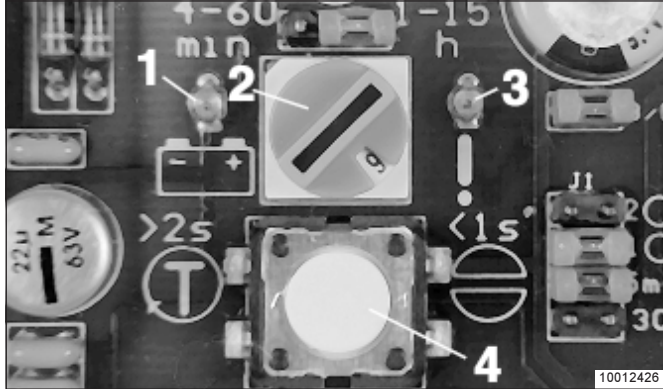

Fig. 20 - LED of the printed circuit board
*Note: It is also possible to acknowledge any fault or to trigger an additional lubrication cycle via pushbutton 4 of the printed circuit board (Fig. 20).*
*Note: It is also possible to acknowledge/reset a fault or trigger an additional lubrication cycle by means of the pushbutton on the printed circuit board (Fig. 20). For this, press it < 1 second and > 2 seconds. **Condition: The machine contact or driving switch must be switched on.***
- To check whether power is applied to the printed circuit board, observe whether the left-hand LED 1, Fig. 20, is lit.